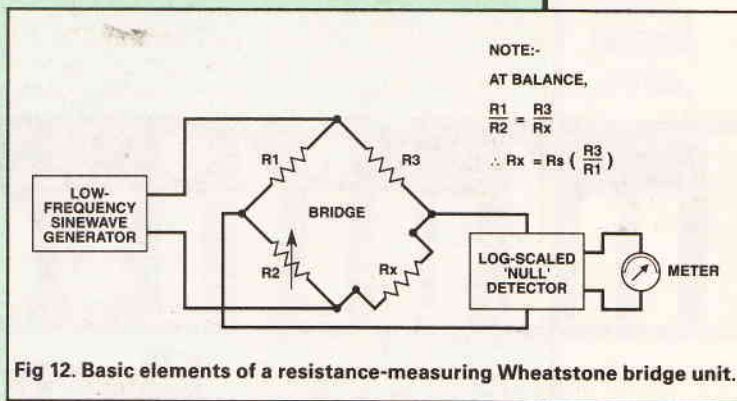

Fig 12. Basic elements of a resistance-measuring Wheatstone bridge unit.
**L-C-R BRIDGES.** These combine a passive 'bridge' network and an energising generator and a balance indicator, to form a stand-alone test set that can be used to measure values of inductance (L), capacitance (C), and resistance (R). Figure 12 shows the basic elements of a resistance-measuring 'Wheatstone' bridge unit; the actual bridge ( $R_1$ - $R_2$ - $R_3$ - $R_x$ ) is energised by a low-frequency (typically 50 to 1000Hz) oscillator, and the bridge's output signal is monitored via a null-indicating logarithmically-scaled meter.